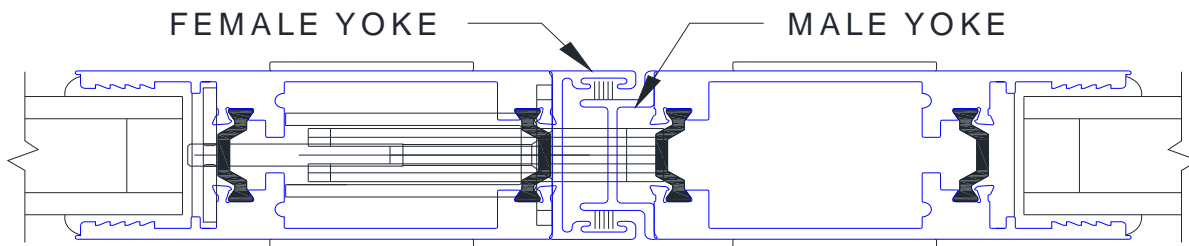

**Figure 6:**
- Finish assembly by inserting (8) #8 x 2" pan head screws into the fixed stile screw grooves in the top and bottom rails (Figure 6). Add wax to the ends of all fasteners to reduce the drive torque required for installation.